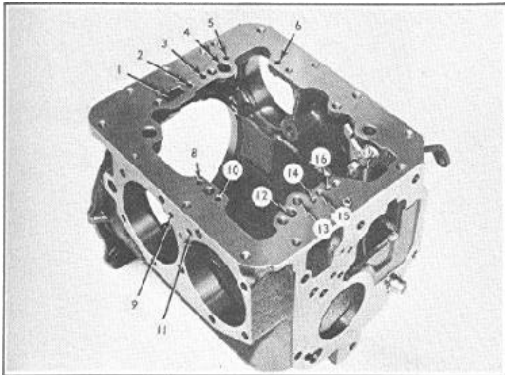

FIGURE 138
2. Check all oil passages for obstruction, Figure 138.
3. Make sure that all oil passages are open. See Figure 138.